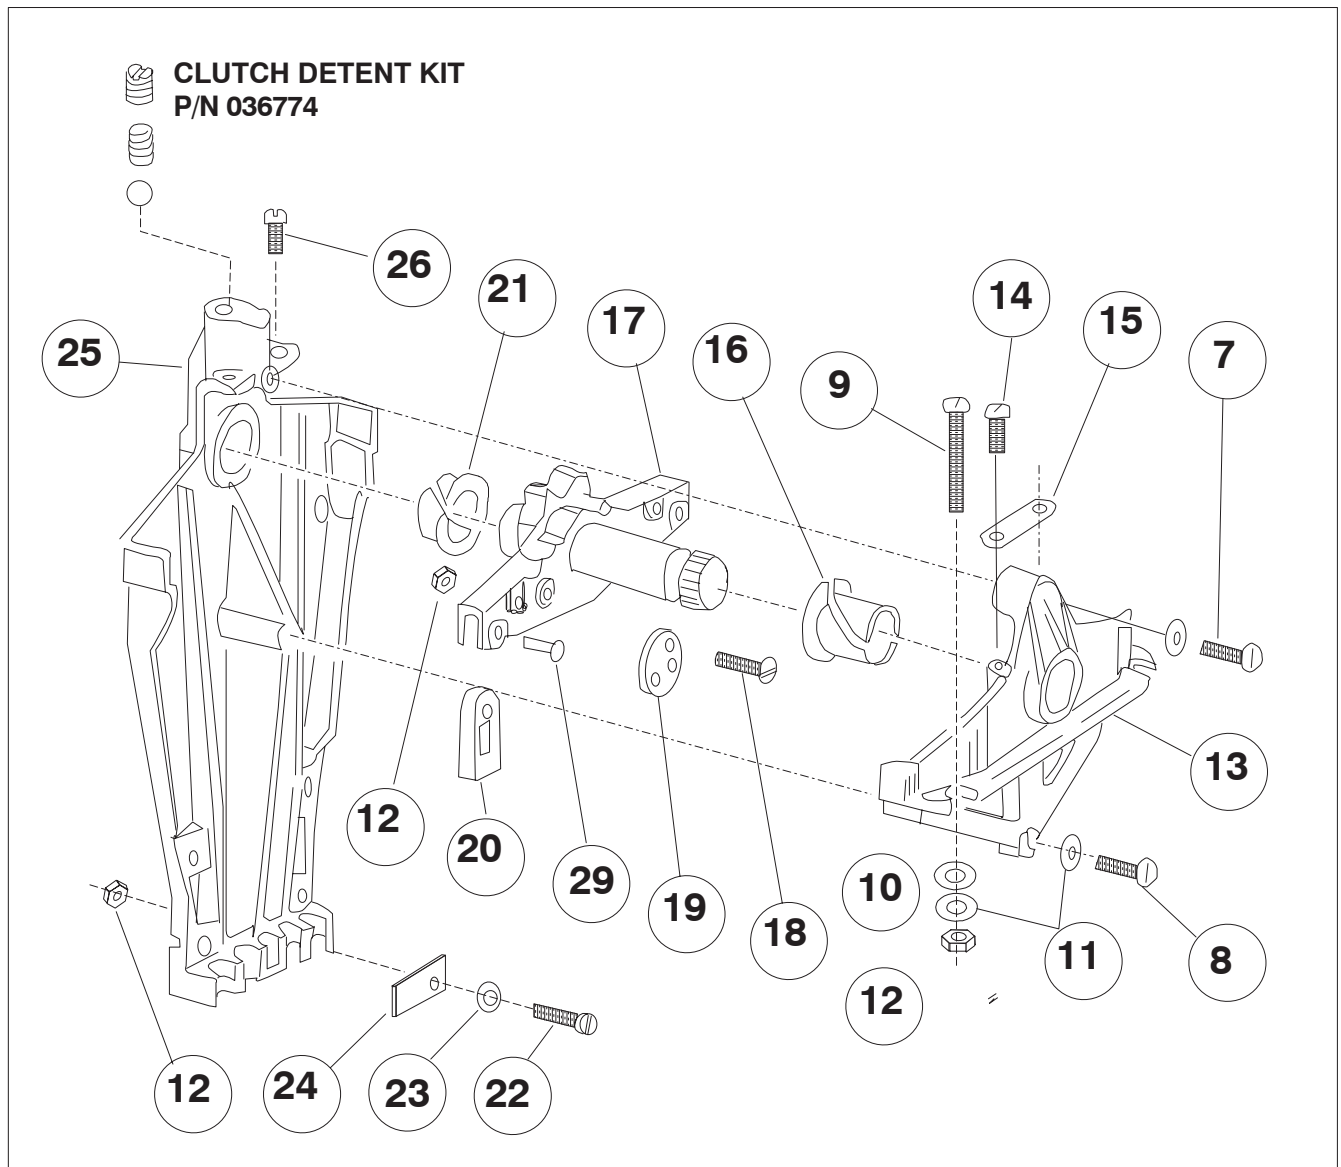

FIGURE 7
1. Typical dual station applications are shown in Figure 7.
2. The following, packed with Control and shown on Figure 7, page 5 are to be discarded: